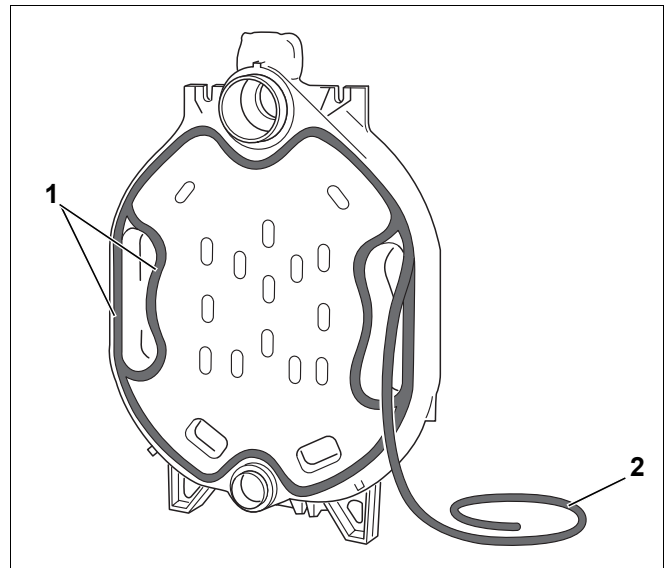

Fig. 11 Fitting the sealing cord (KM string)
- Insert the elastic sealing cord (KM string: Fig. 11, **Item 2**) into the packing groove at the front of the rear section, beginning in the hub area (Fig. 11, **Item 1**) and lightly press home. Overlap the sealing string by 2 cm and press firmly together.